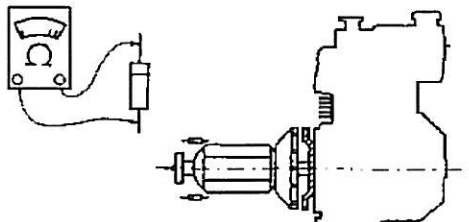

Figure 5-11. Alternator Test 3
- b. Unsolder a wire from one side of diodes (25).
- c. Check with ohmmeter in both directions as shown in Figure 5-11. It shall read infinite resistance in one direction and a nominal value in the other.